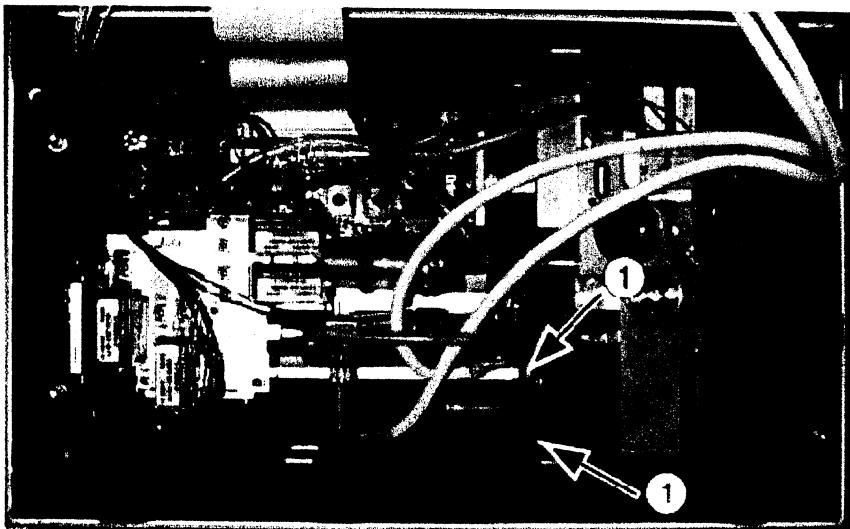

Fig. 1 Pressure reducer fixing screws
2. Remove the two diagonally opposite fixing screws Fig. 1/1 of the pressure reducer.